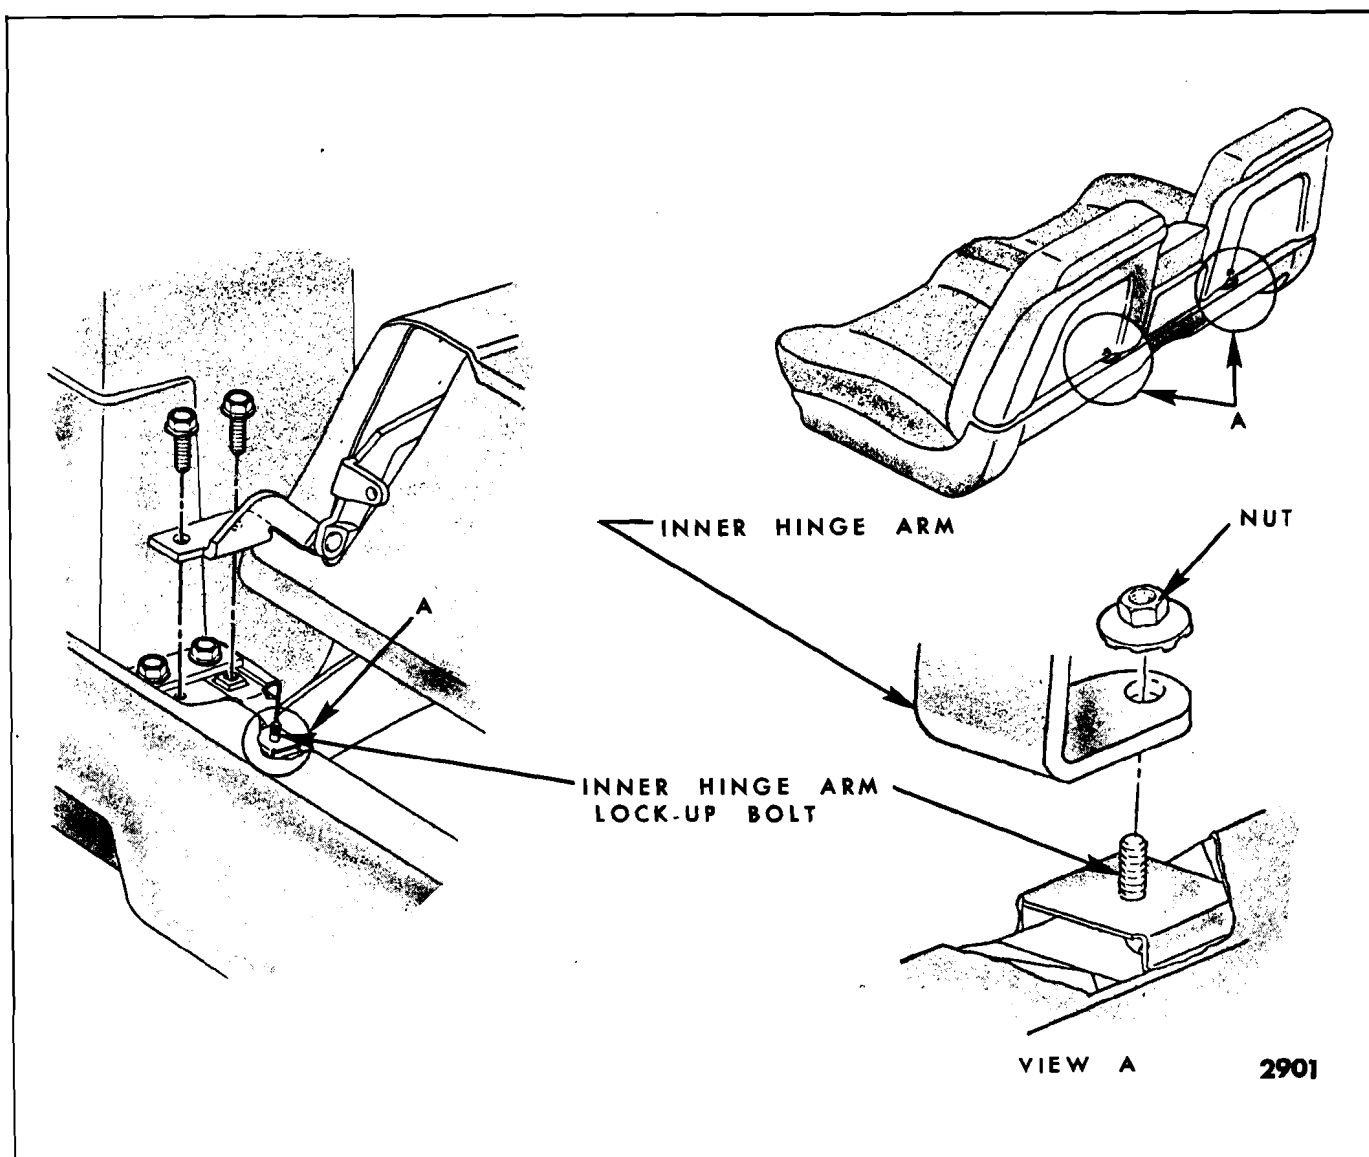

Fig. 15-50—Strato Front Seat Back Assembly (Right or Left) Full Width Seat - 16639 Styles
back and seat cushion, at location "A", remove nut locking seat back to inner hinge (See View "A", Fig. 15-50).
5. Carefully tilt seat back forward. Remove inner hinge bolt cover plate. Remove inner hinge bolts (Fig. 15-50) and carefully remove seat back from seat assembly.